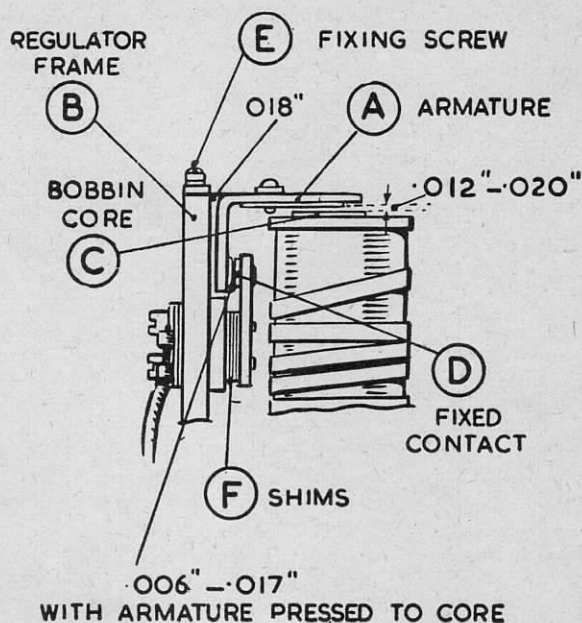

FIG. 46.—The mechanical adjustment for the regulator.
- (i) Slacken the two armature fixing screws "E" (Fig. 46). Insert a .018 feeler gauge between the back of the armature "A" and the regulator frame.